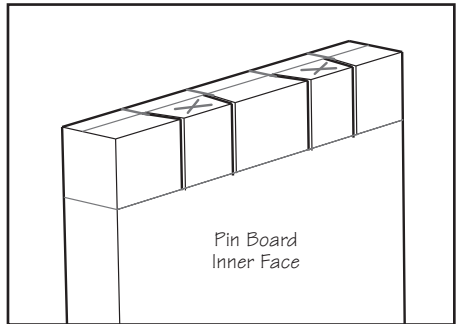

Figure 26: Pin board after the cuts have been made.
7. Cut until you reach the depth line on the end face and the depth line on the inside face of the pin board (**Figure 26**). Be careful not to cut beyond the depth lines for aesthetic reasons.